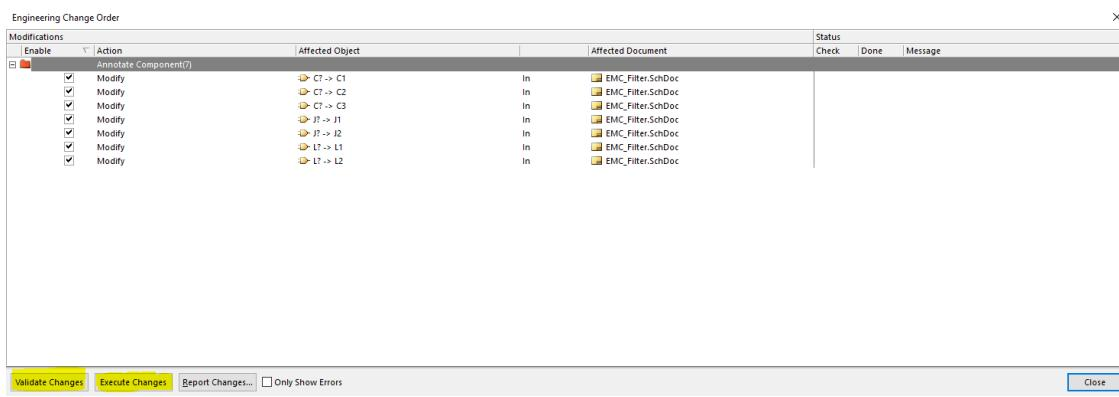
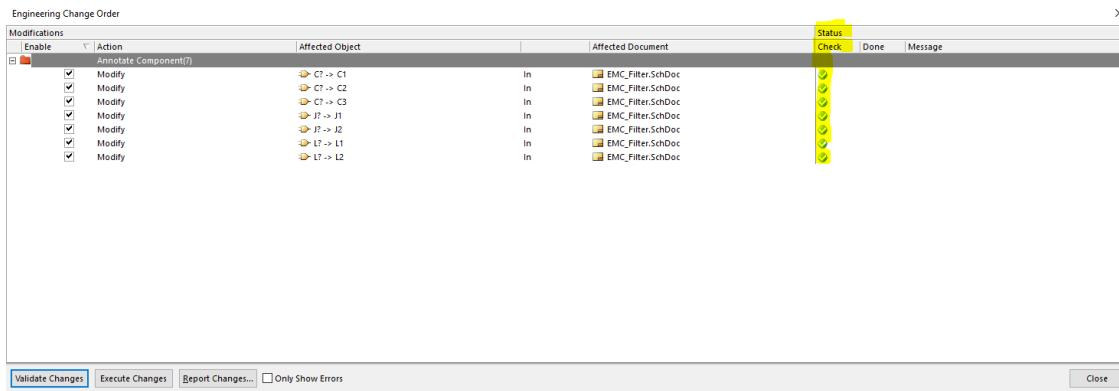
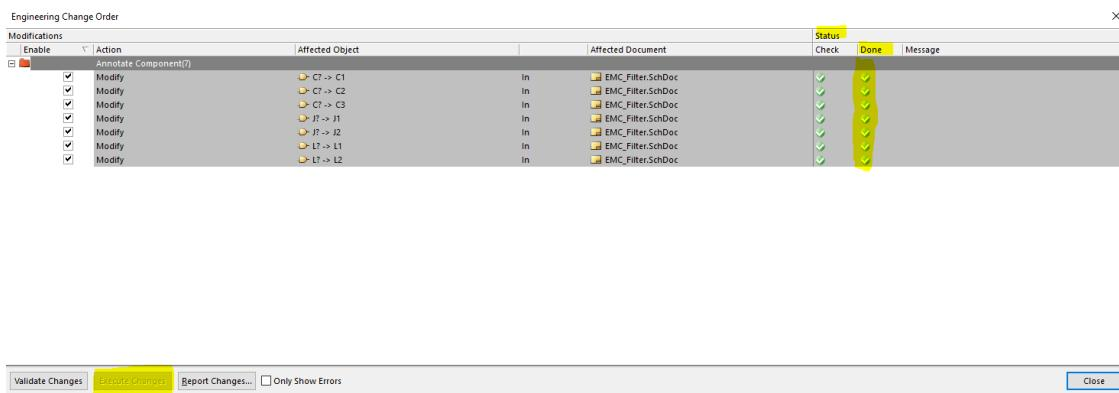

Figure 58: Altium Annotate Tool Engineering Change Order.
Figure 59: Altium Annotate Tool Engineering Change Order validated.
Figure 60: Altium Annotate Tool Engineering Change Order executed.
36. The Engineering Change dialog is shown in Figure 58 which gives the engineer a list of the modifications that were made and allows to select them independently if not wanted. First, press **Validate Changes**. This is like a dry run and evaluates errors that may occur without making a real change in your documents, Figure 59 shows the dialog after validation, notice the change of status. Now that the validation show no sign of trouble press **Execute Changes**, which is shown in Figure 60. The Engineering Change dialog is a general concept of Altium and you will see it many times later on. This dialog will not be explained further on in the tutorial.